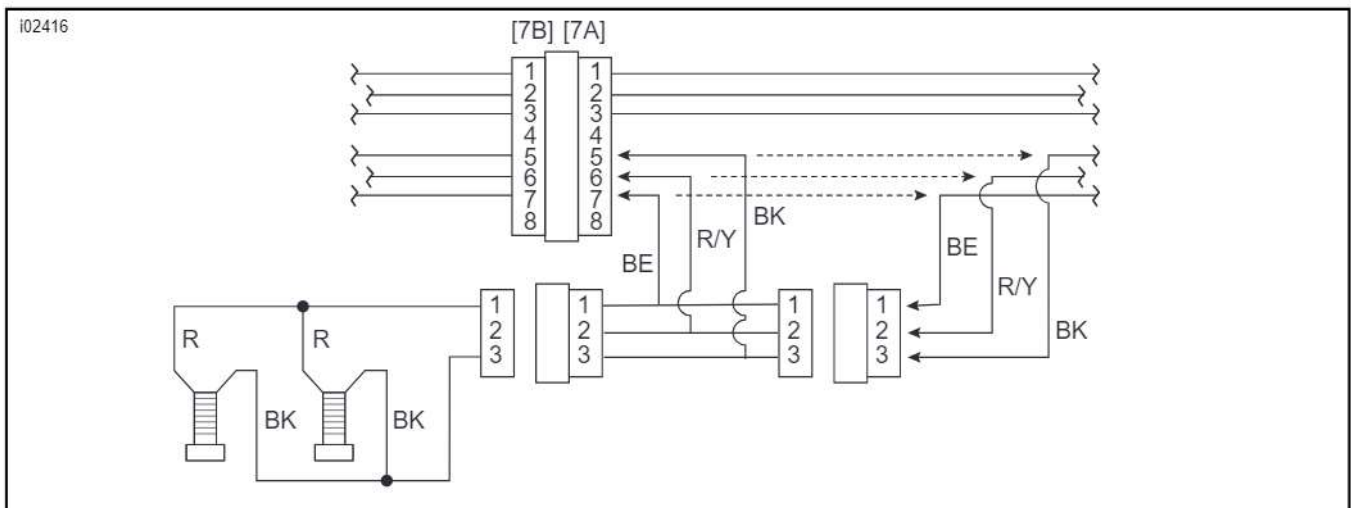

Figure 20. Connecting the Lighted License Screw Wires Using Harness 70327-04 (Touring Models)
16. See Figure 20. Obtain “Y” Harness 70327-04 (purchased separately). Remove pin terminals 5 (black wire), 6 (red/ yellow wire) and 7 (blue wire) from the main harness connector [7A].